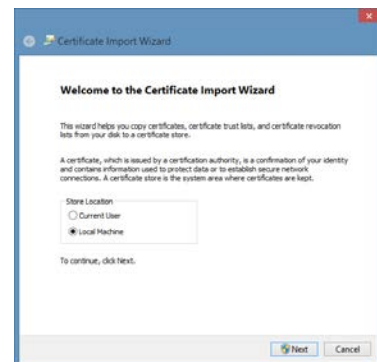

Figure 79: Certificate import wizard - local machine
7. Choose **LocalMachine** and click **Next** (see Figure 79).